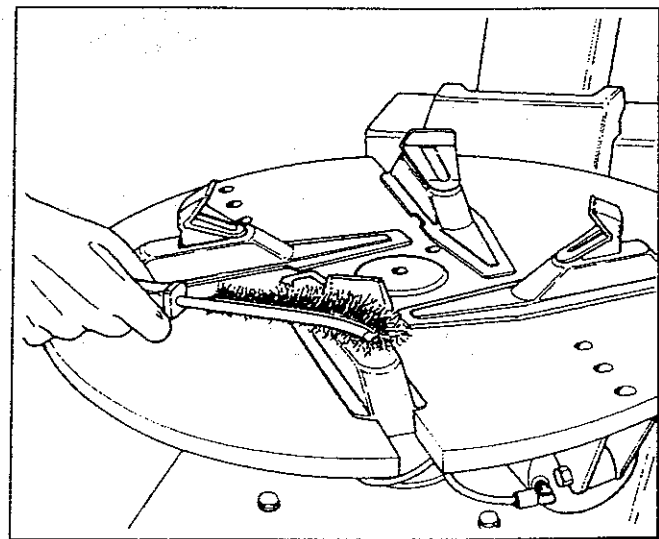

Fig.31
C. Clean every week the teeth of the clamps with a wire brush. Check the plastic rim protector and replace it if worn (Fig.31).